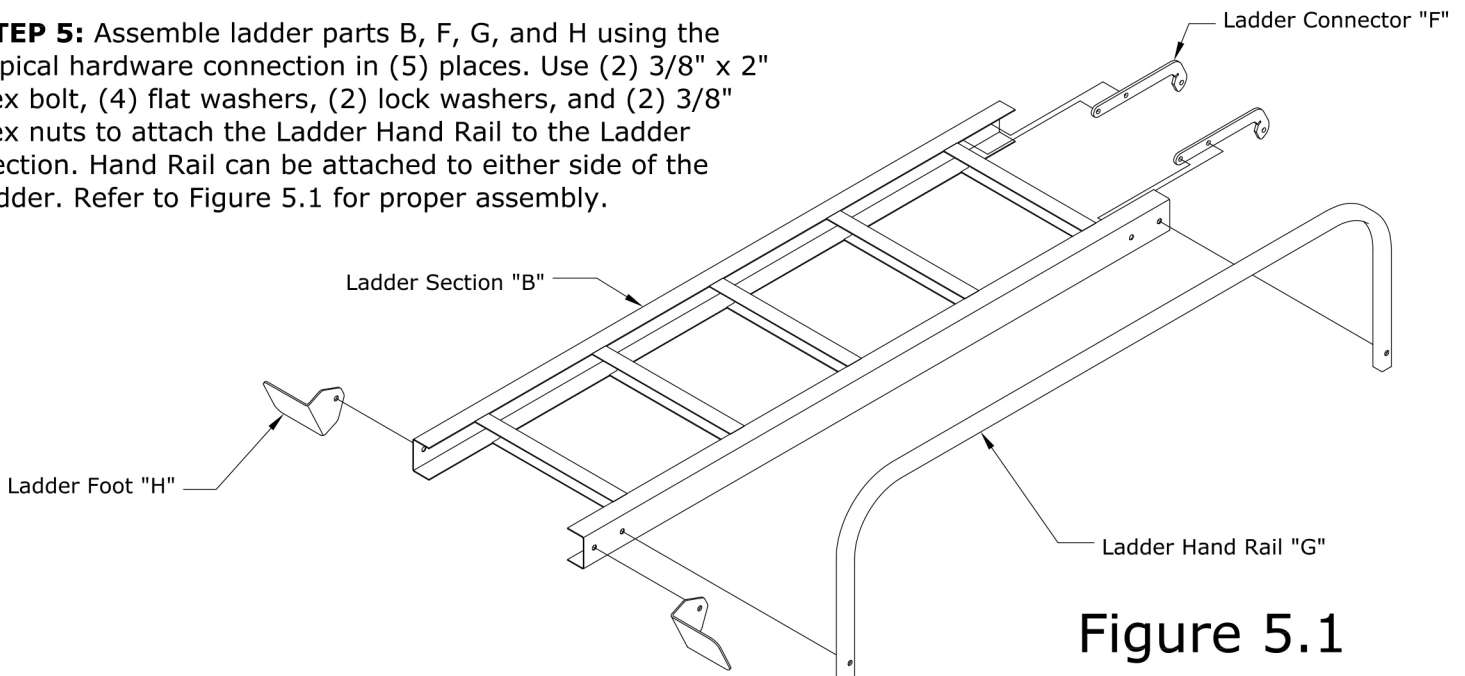

Figure 5.1
STEP 5: Assemble ladder parts B, F, G, and H using the typical hardware connection in (5) places. Use (2) 3/8" x 2" hex bolt, (4) flat washers, (2) lock washers, and (2) 3/8" hex nuts to attach the Ladder Hand Rail to the Ladder Section. Hand Rail can be attached to either side of the ladder. Refer to Figure 5.1 for proper assembly.